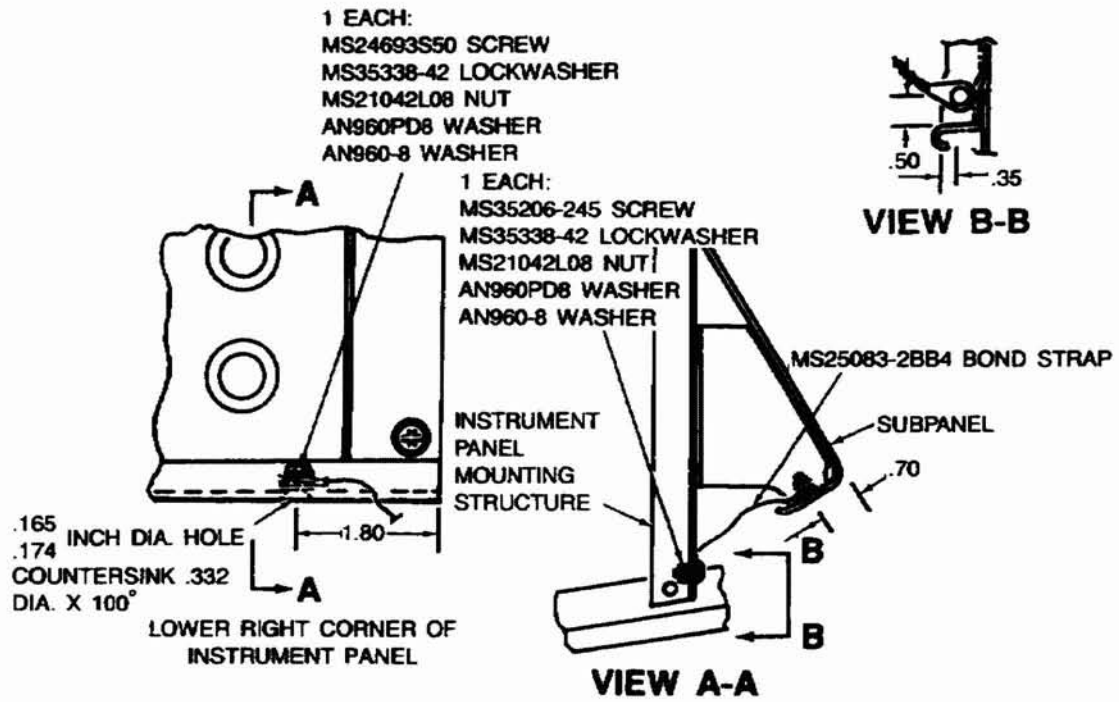

Figure 1
4. On the lower right hand corner of the instrument subpanel, drill a .165 to .175 inch diameter hole in the bottom lip. Countersink the hole to .332 inch diameter with a 100 degree countersink. (see Figure 1)
6. On the lower right hand instrument panel mounting structure, drill a .165 to .174 inch diameter hole just above the "J" stringer as depicted in Figure 1, views A-A and B-B. Clean the area per step 5.
9. Insulate the bond strap with P/N 106242C2 heat shrink tubing or equivalent and a heat gun. Install the free end of the bond strap at the newly drilled location on the instrument panel mounting structure using a P/N MS35206-245 screw, a P/N AN960PD8 washer under the terminal lug, a P/N AN960-8 washer, a P/N MS35338-42 lockwasher and a P/N MS21042L08 nut. (see Figure 1 view A-A)